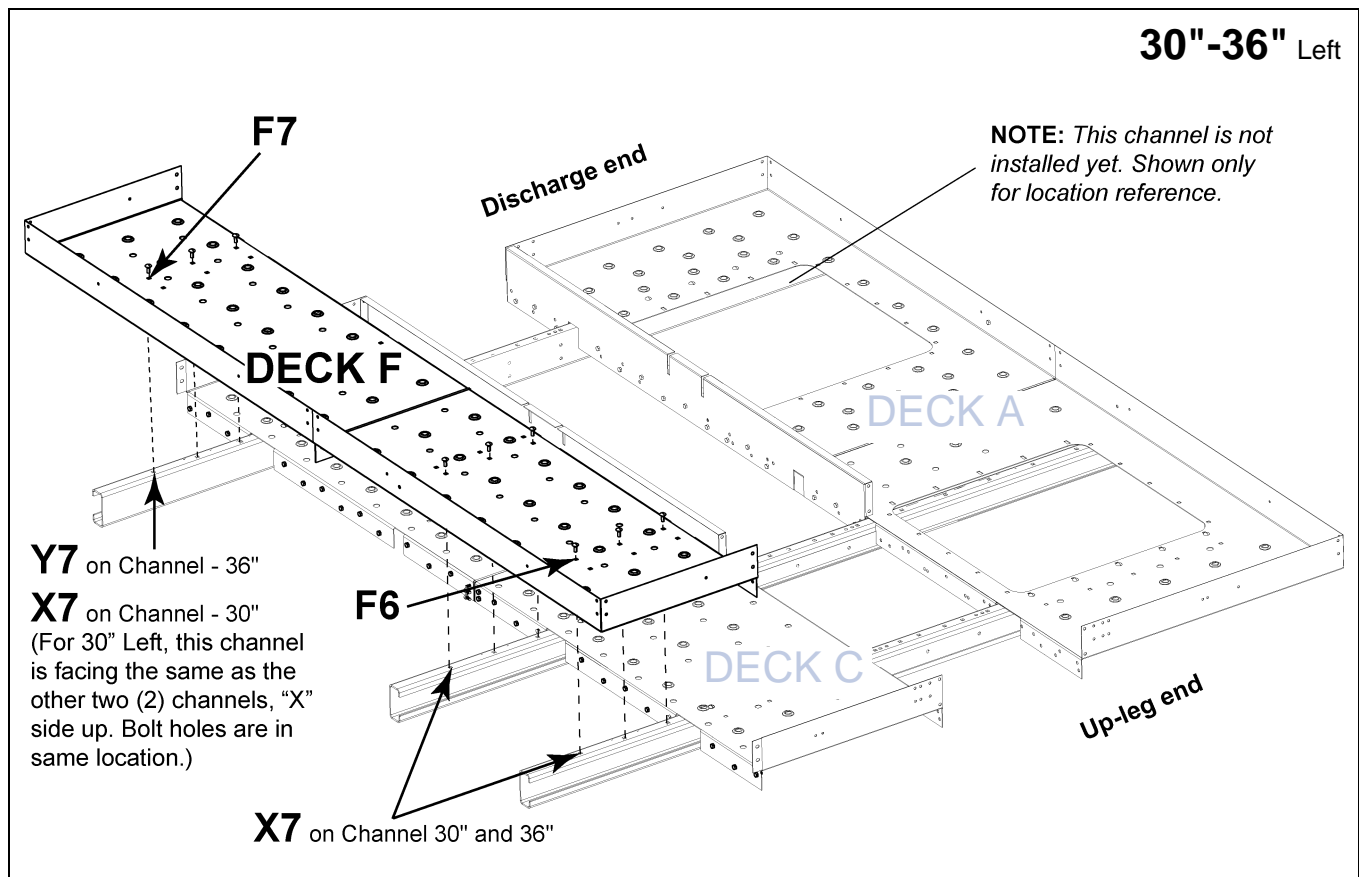

Figure 9L Deck F to Cross Deck Support Channel
1. Locate pre-assembled Deck F. This deck consists of two (2) planks.
2. Orient Deck F with hole **F7** at the discharge end of the lower head and **F6** at the up-leg end. *(See Figure 9L.)*
- b. F Deck hole **F1** to C deck hole **C7**. *(See Figure 9L.)*
- a. At the **drive side** - Channel hole **X7** on the cross deck support channel to Deck F hole **F6**. *(See Figure 9L on Page 86.)*